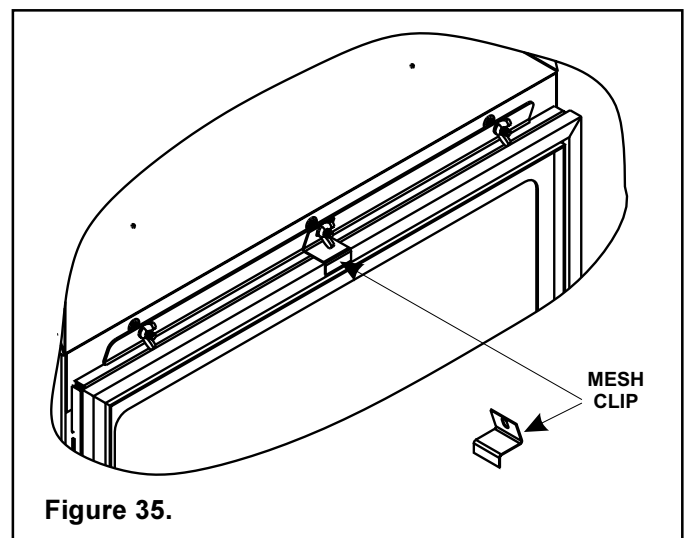

Figure 35.
- Optional mesh (see Figure 35).